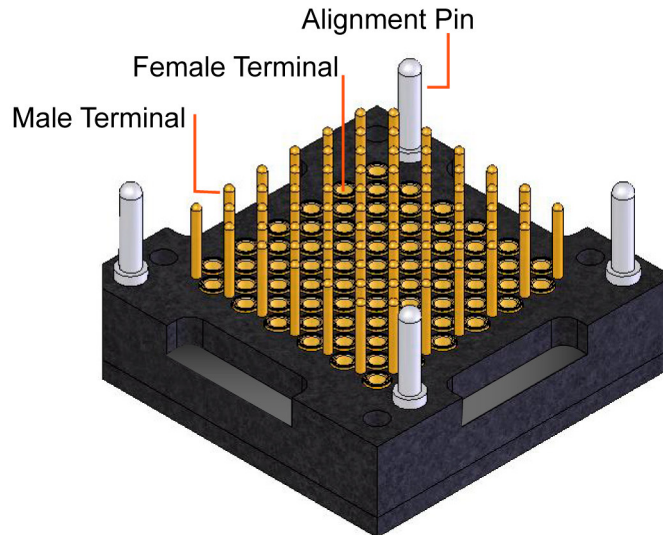

Fig. 4
- 3.5 Unlike a typical socket/adapter system which has a female half (socket) and a male half (adapter), this design incorporates both the male and female terminals in each half of the connector. This patented design allows the use of existing screw machine technology and improved electrical performance over standard socket/adapter systems. [Fig. 4]
- 3.6 The socket and the adapter both contain four (4) alignment pins; one (1) in each corner. These terminals are nickel-plated and do not serve any electrical purpose. There are three (3) functions of the alignment terminals. The first is to align the male terminal into the female terminal. The second is to hold the protective cover in place during shipping and the third is to protect the small diameter male terminals from damage. [Fig. 4]